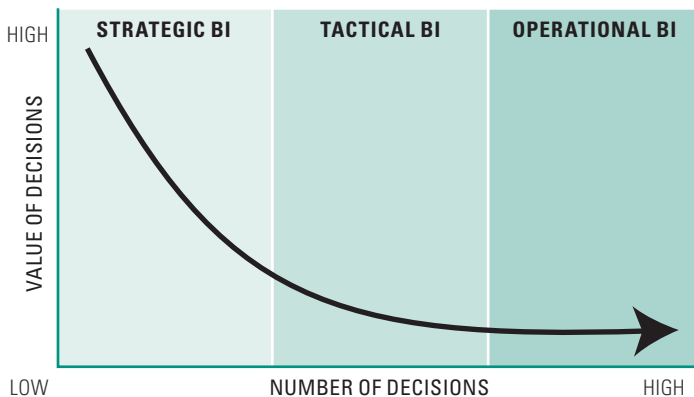

Figure 1. Operational BI supports more lower-value decisions than strategic or tactical BI, but the collective impact of those decisions is significant.
From strategic to operational BI. Operational business intelligence (BI) represents a significant departure from other forms of BI. In the past, organizations used BI primarily to support strategic and tactical decision making. *Strategic BI* helps executives and managers make a few, broad-based, strategic decisions, such as whether to introduce a new product line, acquire a competitor, change a pricing model, or expand the sales force. *Tactical BI* enables departmental managers and staff to make weekly and monthly tactical decisions, such as how to allocate resources for the new budget, how to craft a new marketing promotion to optimize sales, or how to analyze the impact of a new system or project. (See Figure 1.)